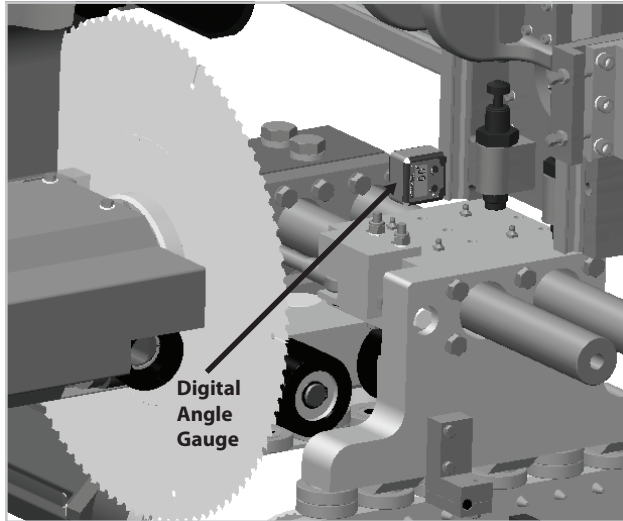

Figure 63
Step 1 – Place a magnetic digital angle gauge on the Z1 linear rails, as shown in Figure 63.